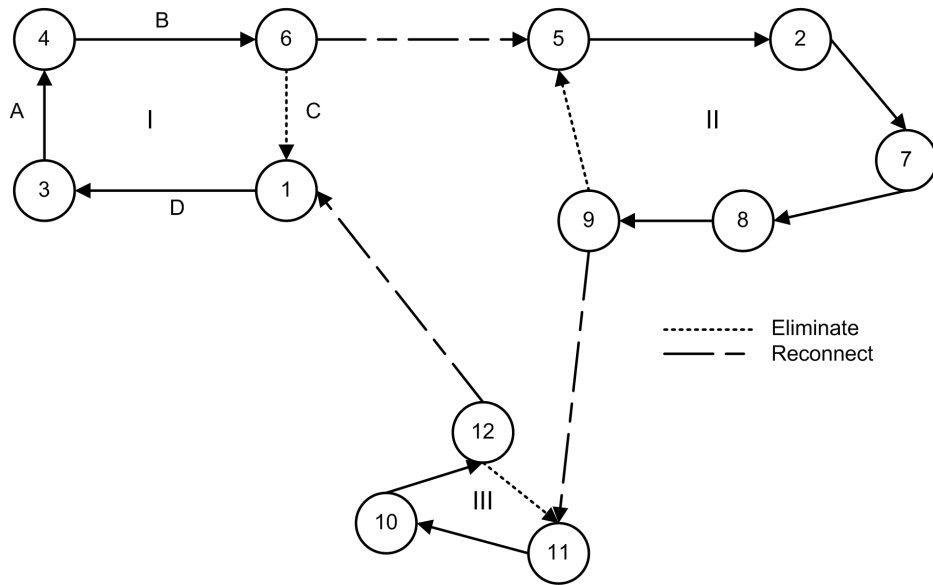

Figure 1.4: Patching Algorithm
4. If there are subtours: Find an upper bound  $\bar{z}$ (feasible solution) by using a patching algorithm (Karp) see figure 1.4